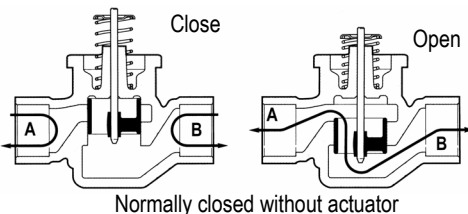
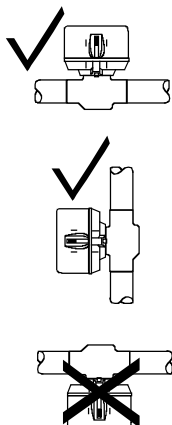

Fig. 2: Flow direction
Fig. 3: Valve mounting position
3. The valve may be installed with flow from A to B, or B to A (Fig. 2). The valve body may be plumbed in any angle but not with the actuator below the horizontal level of valve body (Fig. 3). Make sure there is enough room around the actuator for servicing or replacement. Install the valve in a good location for future maintenance, leaving an extra 25 mm head clearance required to remove the actuator.